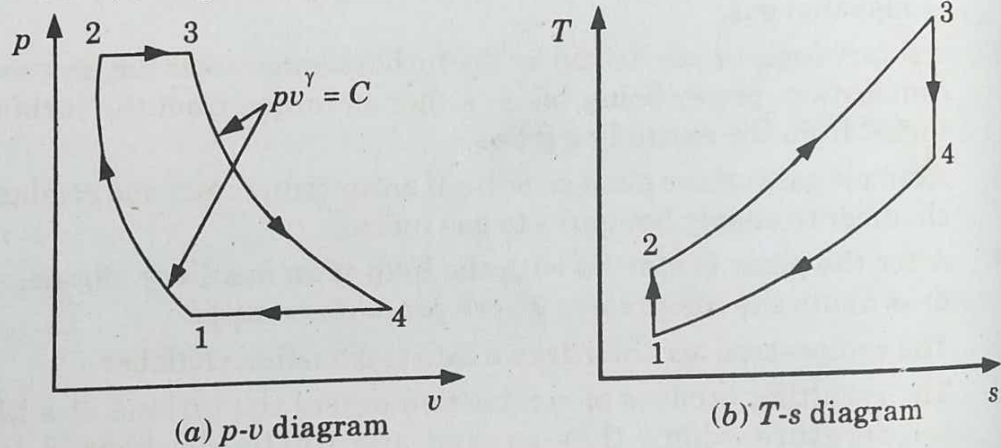

Fig. 5.2.2.
4. Brayton cycle on p - v and T - s diagram is shown in Fig. 5.2.2(a) and 5.2.2(b) respectively.